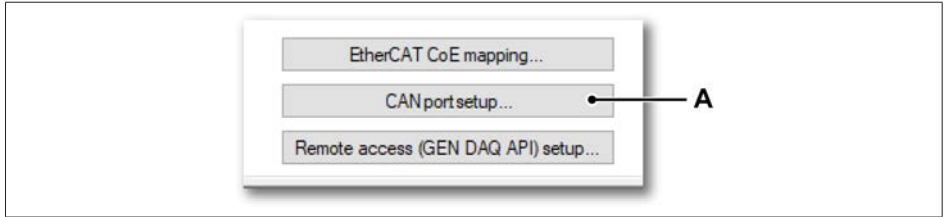

Fig. 12.15 Opening CAN port setup options
1. Publish to CAN is disabled and must be enabled by opening the **CAN port setup** (see Fig. 12.15).